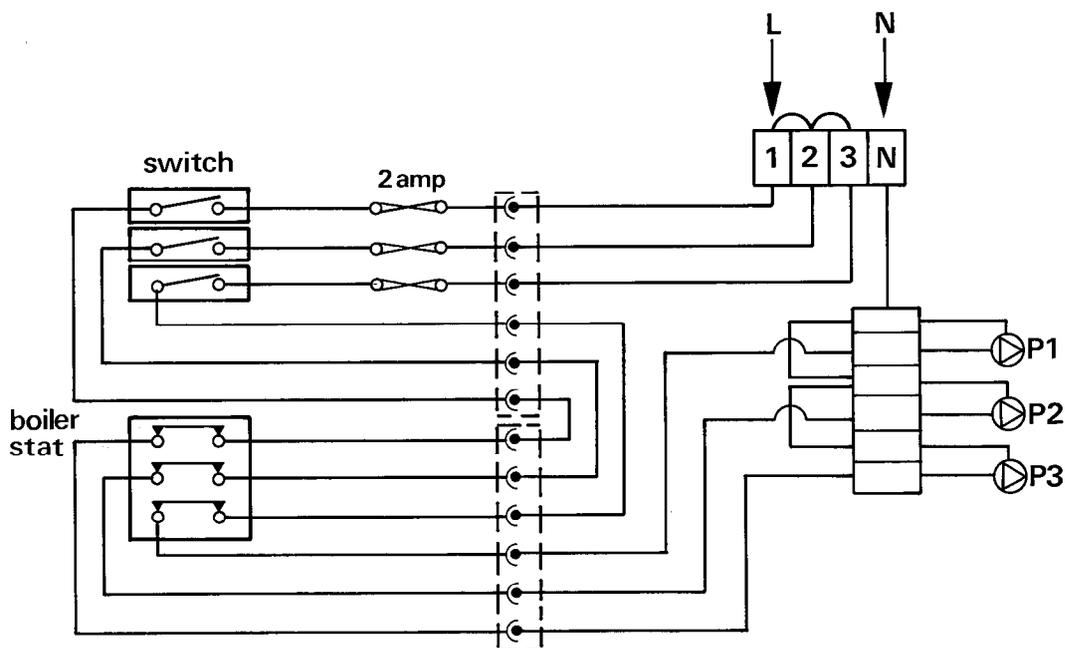

Fig. 12
**7) Electrical connections** – Connect the boilers to the electrical supply as shown in the wiring diagram (fig. 12).